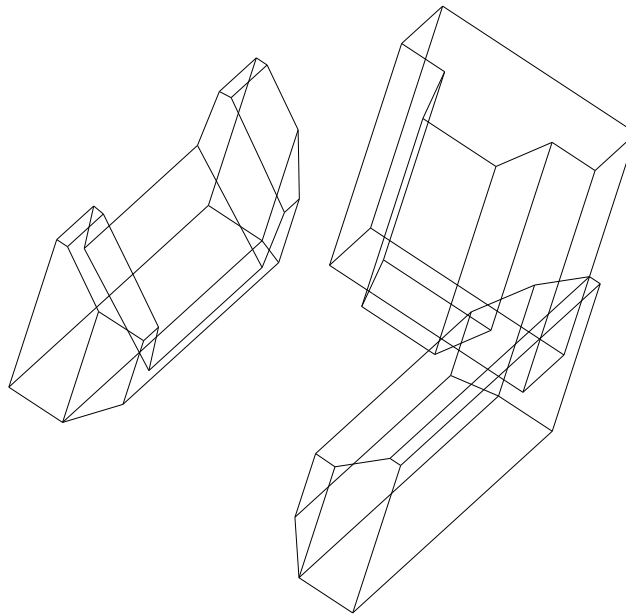

Figure 7. *Distribution of refractory elements in the furnace firebox for combustion of pellets*
- whether furnace fireclay is properly positioned (**Figure 7**),